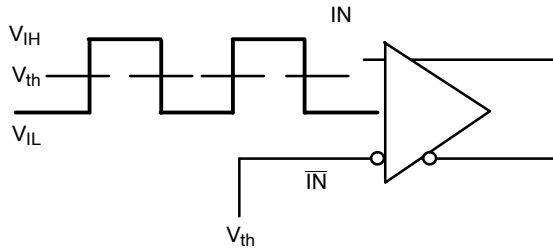

Figure 6. Differential Input Driven Single-Ended
**DIFFERENTIAL INPUTS DRIVEN SINGLE-ENDED** (Note 7) (Figures 6 & 8)
**DIFFERENTIAL IN0/IN0, IN1/IN1, INPUTS DRIVEN DIFFERENTIALLY** (Figures 6 & 9) (Note 9)